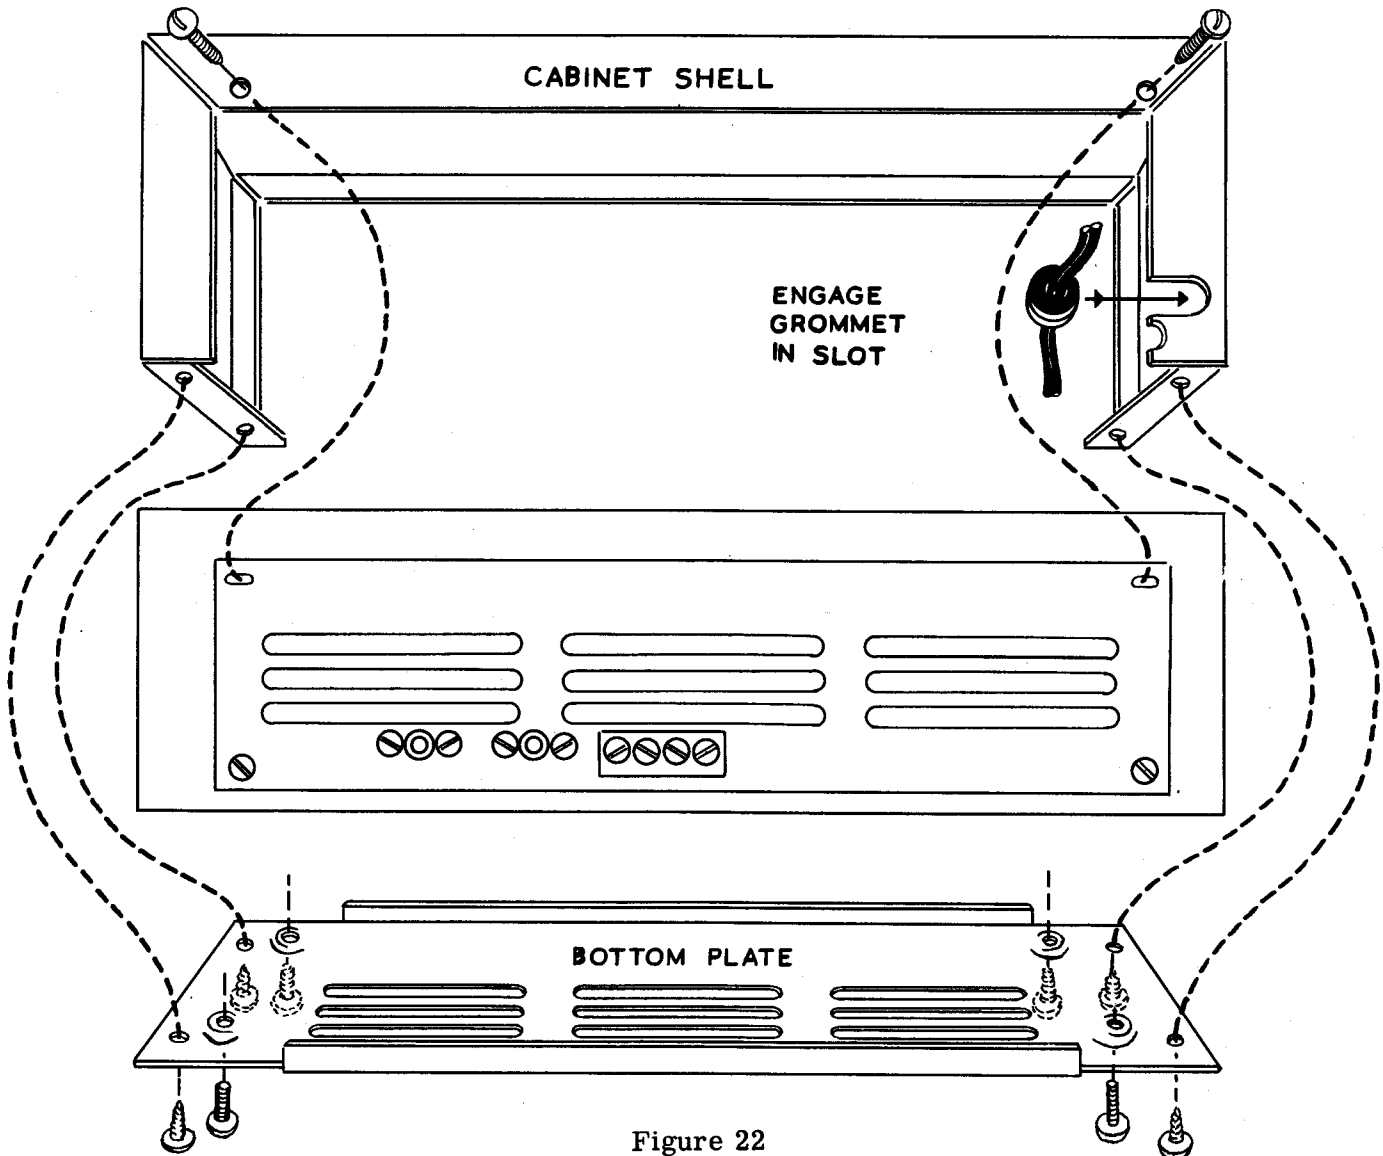

Figure 22
- (✓) With the cooling vents to the rear, install the bottom cover as shown in Figure 22, using 6-32 self-tapping screws at each dimpled opening.